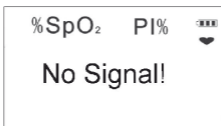

Figure 10 “No Signal” Indication
- During measurement, if the probe is not connected to the oximeter, “No Signal!” will be prompted on the screen, as shown in Figure 10.